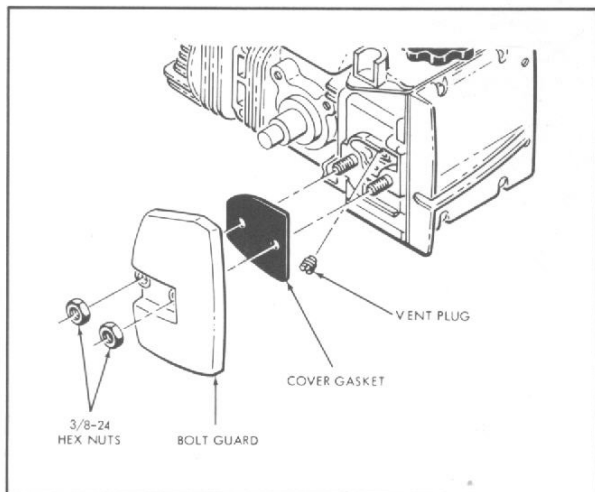

Figure 5. Installing New Fuel Tank Vent Plug
5. Clean all dirt away from the bar mounting surface of the bar mounting pad. Remove the fuel vent orifice assembly from the bar mounting pad and install the new Fuel Tank Vent Plug (P/N 57595). Mount the Cover Plate Gasket (P/N 57437) and Bolt Guard (P/N 57371) on the bar mounting studs and secure with two 3/8-24 hex nuts (P/N 103729) as shown in Figure 5. Do not overtighten